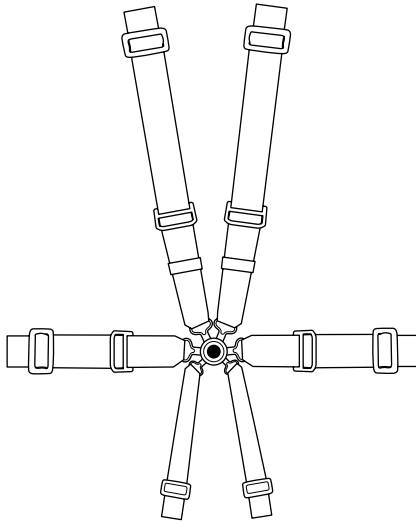

Figure 4-17:
- ✔ Six straps (as shown in Figure 4-17)